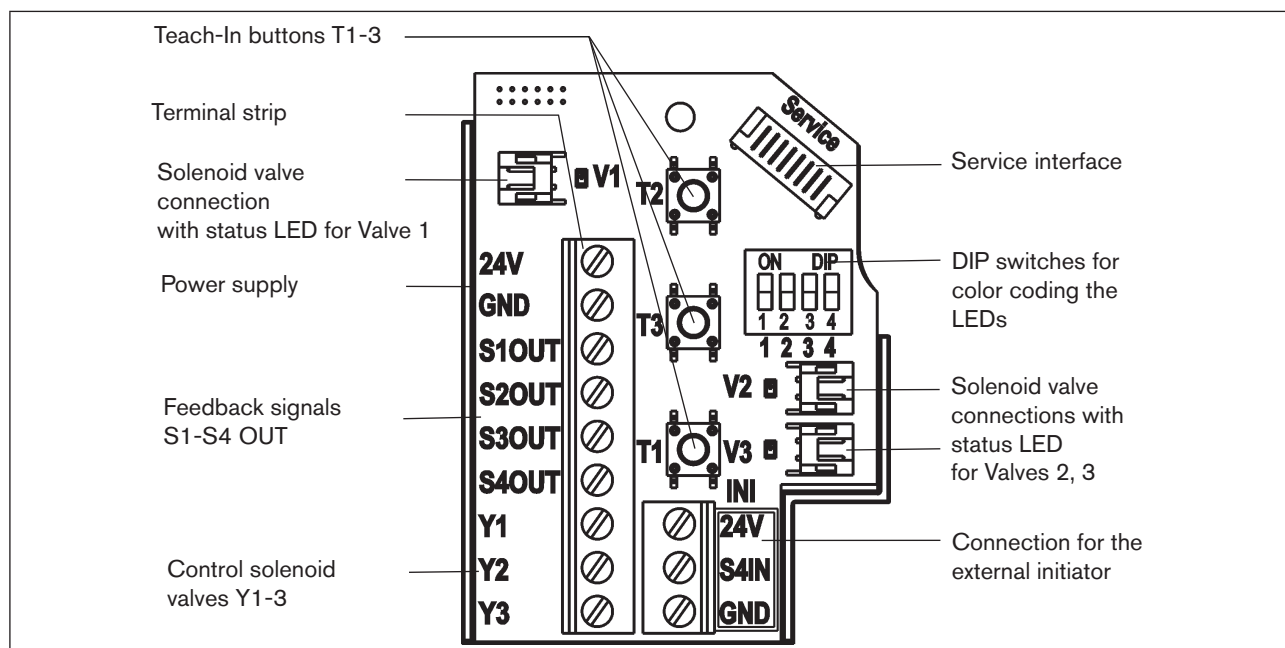

Fig. 14: 24 V DC electronics module
- Connect the wires to the connection terminals according to the connection configuration described in “Fig. 14”.